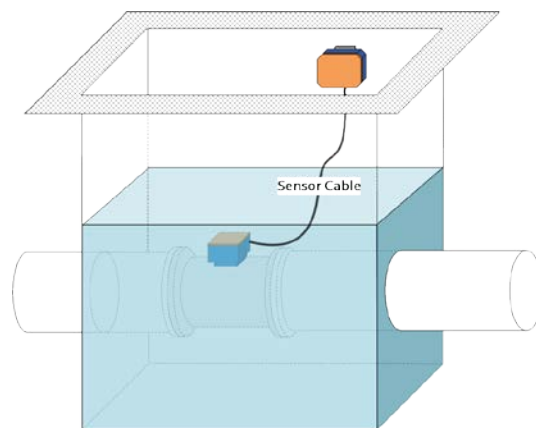

Figure 7 Remote-Type Metering Installation
- ✔✔ The remote-type transducer is recommended to install 1m above the water surface. The sensor shall NOT be installed more than 2m below the water surface. See *Figure 7*.